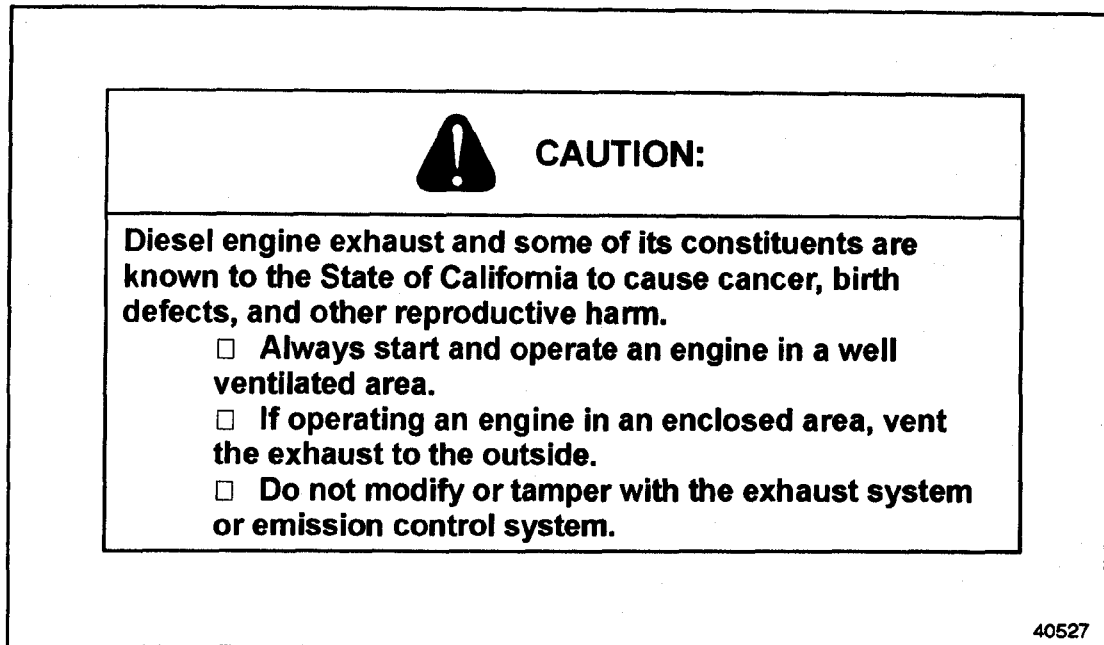

Figure 11-1 California Proposition 65 Warning
For accurate dynamometer readings during a Series 60 engine run-in, the chassis dynamometer room *must* be properly ventilated. See Figure 11-1.
1. See Figure 11-1 for exhaust caution before preceeding. Start the engine with minimum dynamometer resistance.
4. See Figure 11-1 for exhaust caution before preceeding. Run the engine at this speed and load for 5 minutes to allow sufficient time for the coolant temperature to reach the normal operating range. Record length start and stop times, speed, brake horsepower, coolant temperature and lubricating oil pressure on the Engine Test Report; see Figure 11-3, Part D.
5. See Figure 11-1 for exhaust caution before preceeding. Run the engine at each speed and rating for the length of time indicated in the Engine Run-In Schedule. During this time, engine performance will improve as new parts begin to seat in.